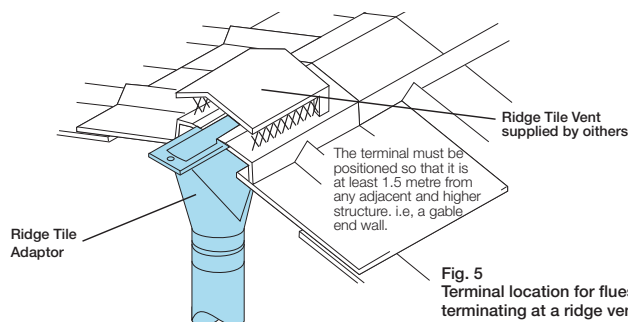

Fig. 5
**Ridge Tile Adaptor** Used to adapt the vent to the rectangular opening or Ridge Tile Vents which exhaust the combustion products only at the apex of the roof. Separate instructions are provided with this component. See Fig 5.
Terminals should be sited to allow the products of combustion to disperse freely at all times. To avoid adverse wind or pressure effects which might impede vent flow, the termination must be correctly located in relation to the roof and any nearby structures. Building Regulations, via BS 5440, stipulate the legal requirements shown in Figs 5 to 8. NB A ridge tile vent terminal must be positioned so that it is not less than 1.5m from any adjacent structure, i.e. the gable end wall of an adjacent and higher dwelling. See Fig 5.